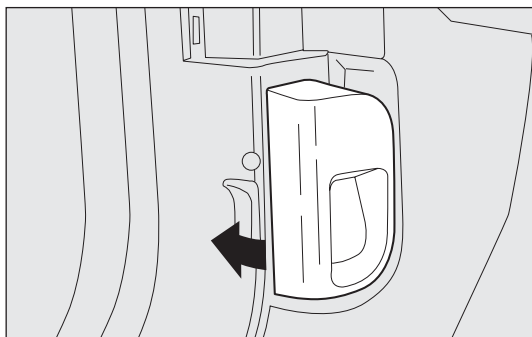

fig. 83
- ☐ pull the lever fig. 83 in the direction of the arrow;